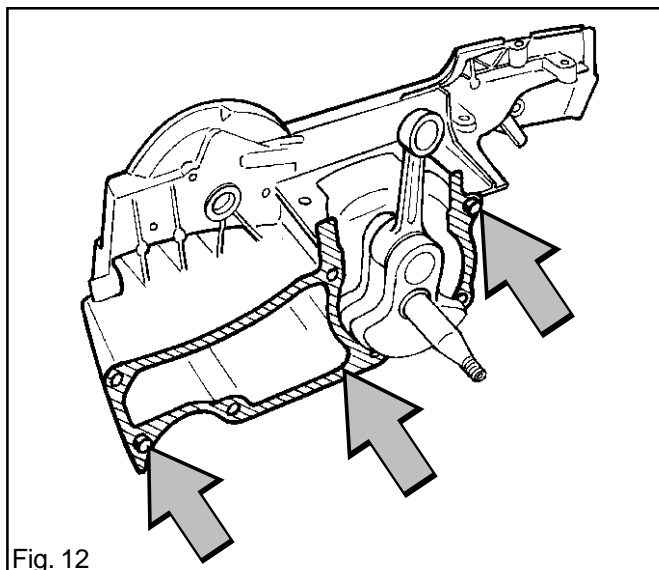

Fig. 12
4. Place the guide pegs in the clutch side's crankcase half, and grease in and insert the gasket. See fig. 12.